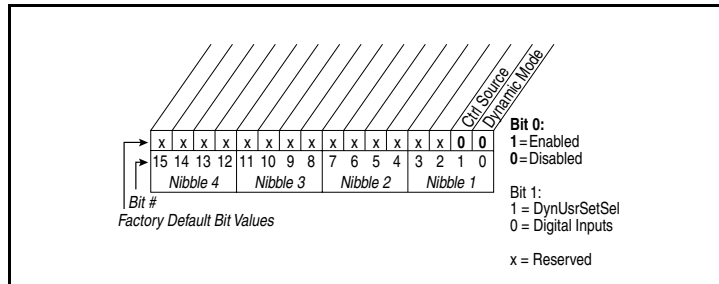

Figure 11.16 – Dyn UserSet Cnfg
**Range:** See figure 11.16.
**Default:** See figure 11.16.